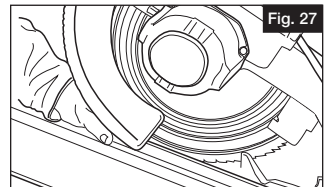

Fig. 27
- b. If needed, an additional rail stiffener (N) can be purchased separately, and installed in place in top rail (A) as shown below.
- c. Cut the top rail (A) to length at the stair angle (Fig. 27).